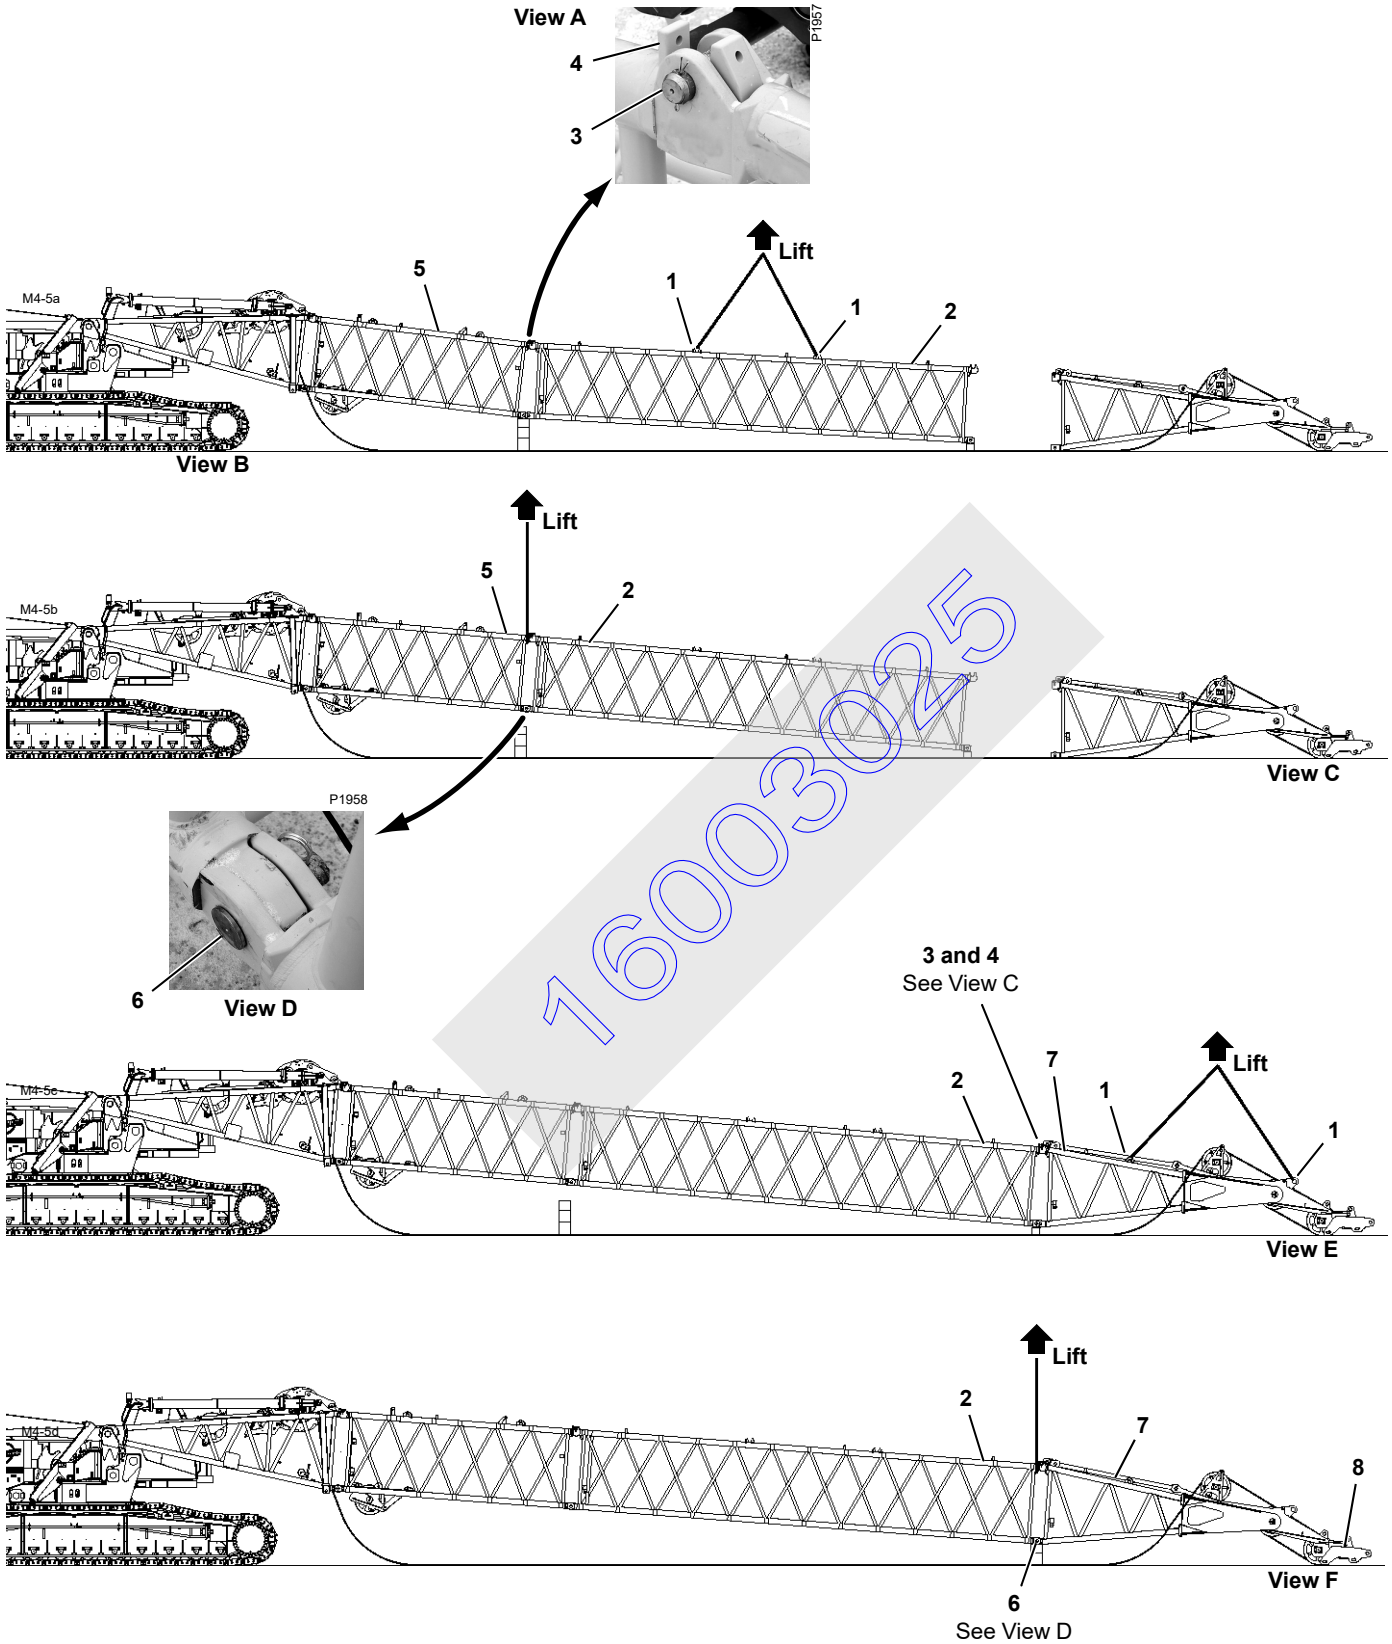

FIGURE 4-7
**Legend for Figure 4-7**
See Figure 4-7 for the following procedure.